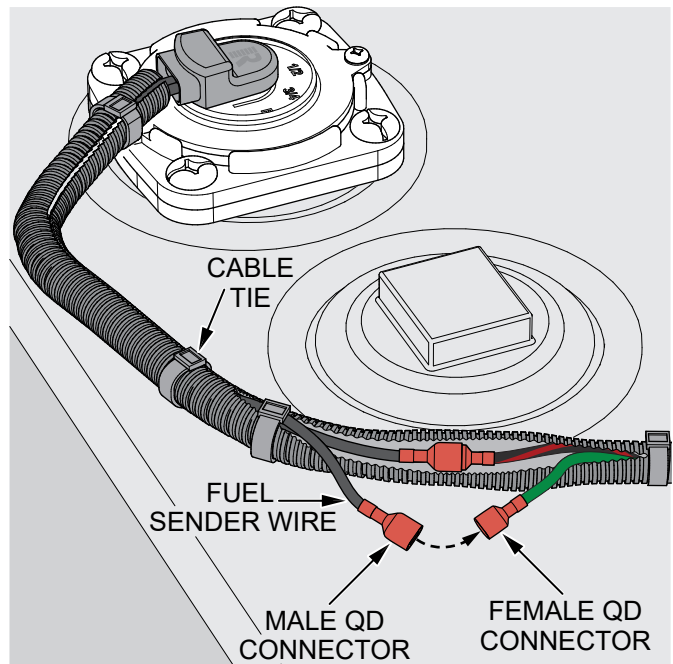

Figure 10. Connect New Fuel Sender Wires
12. Connect the **two fuel sender wires** with **insulated male QD connectors** to the available **insulated female QD connectors** within the **wire harness** (Figure 10).
13. Insert the wires into the wiring harness and secure it with locally sourced **cable ties** (Figure 10) as needed.